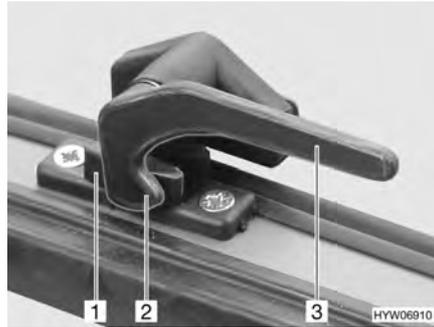

Fig. 57 Catch lever in "closed" position
- Turn the catch lever (Fig. 57,3) a quarter turn towards the centre of the window.
- Turn the catch lever (Fig. 57,3) a quarter turn towards the window frame. The locking catch (Fig. 57,2) is located on the inside of the window catch (Fig. 57,1).
- Firmly closed (Fig. 57).